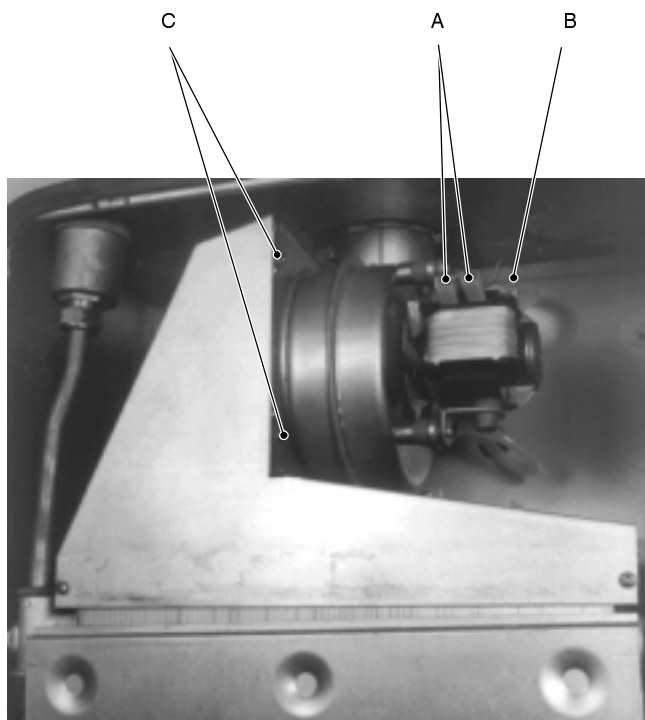

fig. 72
Disconnect the connectors A (fig. 72) and measure the electrical resistance of the motor that has to be about 47 Ω .
- 2 disconnect the connectors A and the earth connection B (fig. 72);